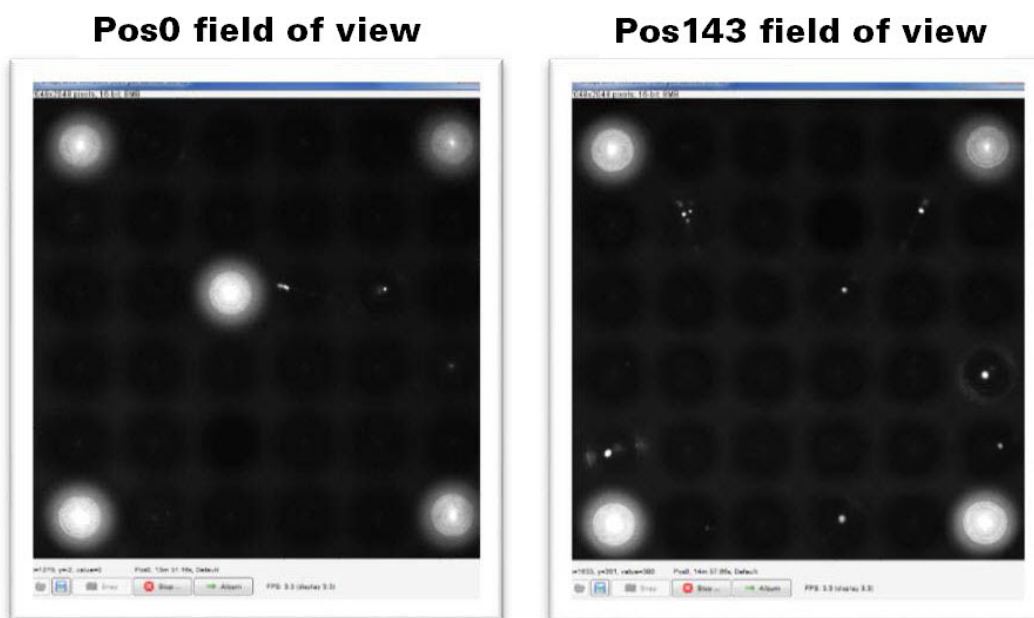

Figure 20. Multiwell images including fiducial-containing nanowells.
13. Confirm that five fiducial-containing wells are present, forming an “X” shape at Pos0 (Figure 20, below). There are four fields of view across an entire chip that include fiducial-containing nanowells (Pos0, Pos11, Pos132, and Pos143). Each field of view includes 36 nanowells (a 6 x 6 grid).
14. Select “Pos143” in the *Stage Position List* window and confirm that all 36 nanowells are properly captured in the image. There will be four fiducial-containing nanowells in the shape of a square, as shown in Figure 20 (above). Pos143 is located at the lower right corner of the stage fixture.